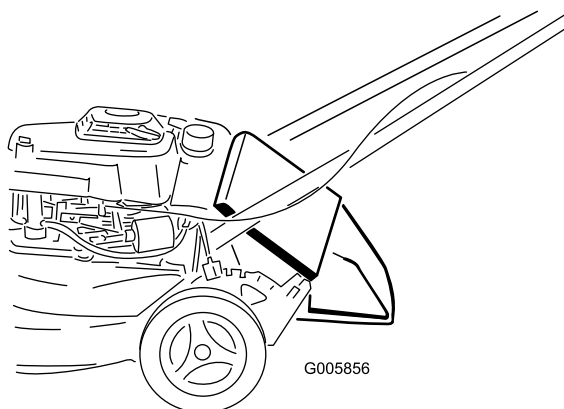

Figure 2
4. Lower the rear door (Figure 2).